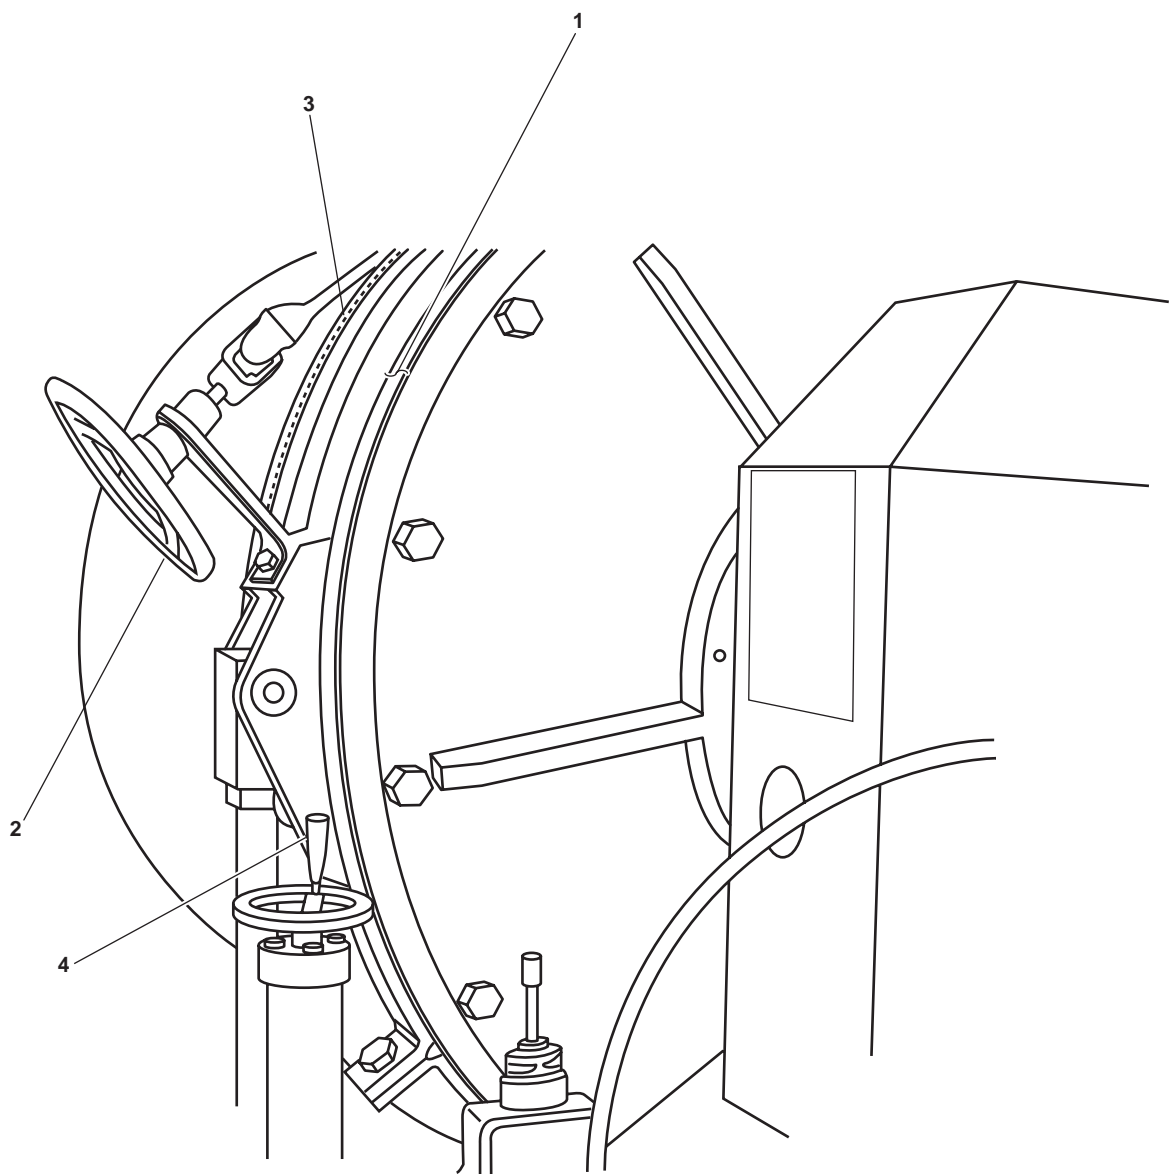

Figure 7. Towing Machine Clutch Brake and Auxiliary Brake
3. Tighten the clutch brake (figure 7, item 1) by tightening the clutch brake handwheel (figure 7, item 2).
4. Loosen the auxiliary brake (figure 7, item 3) by loosening the auxiliary brake handwheel (figure 7, item 4) to allow free rotation of the drum.
6. With the towline under light tension, slowly release the clutch brake (figure 7, item 1) by loosening the clutch brake handwheel (figure 7, item 2) until the line begins to pull out.
7. Accelerate the LT to approximately 4 knots and allow the towline to be pulled out at a speed of up to 400 ft/min (122 m/min). Tension can be maintained on the towline by tightening and loosening the clutch brake (figure 7, item 1) with the clutch brake handwheel (figure 7, item 2).
9. Slowly tighten the clutch brake (figure 7, item 1) by turning the clutch brake handwheel (figure 7, item 2) until the clutch brake is properly adjusted for tow size, sea conditions, and the LT speed.
6. Loosen the clutch brake (figure 7, item 1) by turning the handwheel (figure 7, item 2) to allow free rotation of the ring gear.